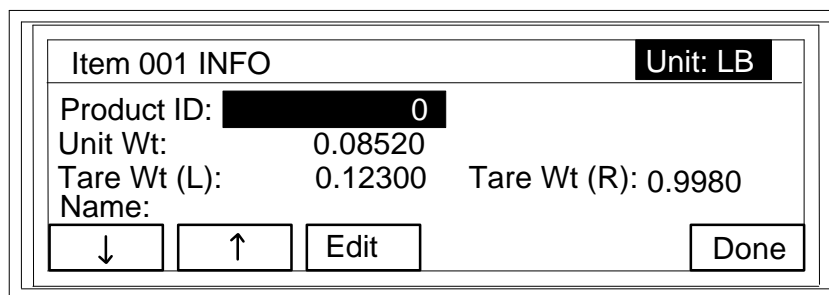

FIGURE 4-2: Edit Item ID Screen
5. Once the desired item is highlighted, press the Edit soft key. The scale displays a list of stored item entries. The scale displays a summary of the item's information on the screen shown in Figure 4-2.